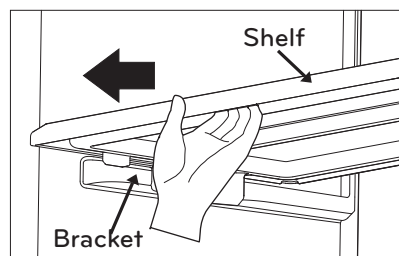

Fig. 12
1. Hold the shelf by the front part Fig. 12.